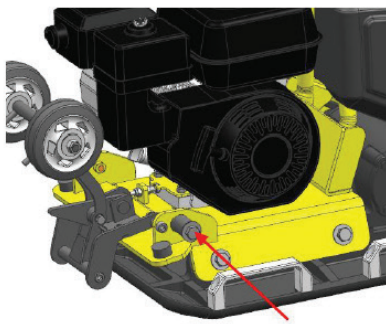

Fig. 10
8.2 Remove the bolts and isolation mounts from the back of the compactor. (Fig. 10)